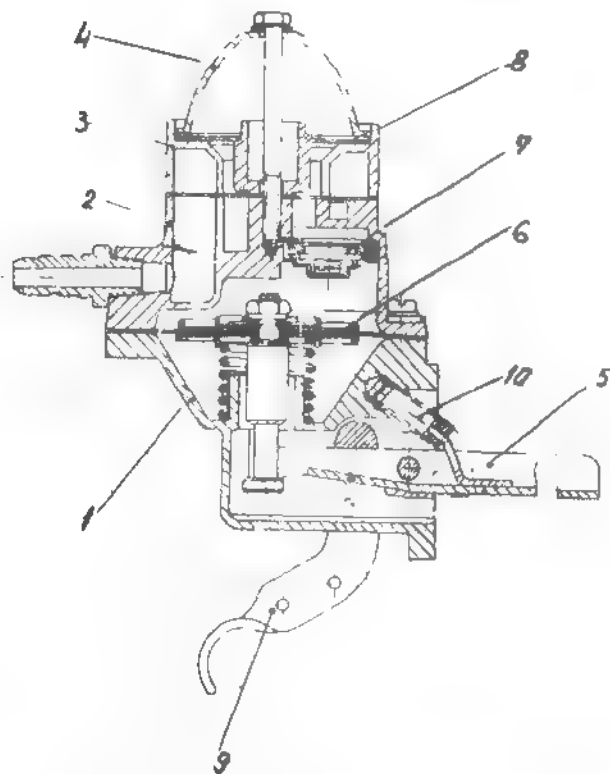

Fig. 4.3. FUEL PUMP
The pump is of the diaphragm type and is actuated by an excentric of the camshaft through the agency of a rocker arm (see fig. 4.3.).
A central bolt fastens the cover (4) and upper body (3) on middle body (2) (fig. 4.3.).
- Unscrew bolts fastening the middle body on lower body (see fig. 4.3.).
- Unscrew cover bolt and remove the pump cover (4) - see Fig. 4.3. - fine filter strainer (8), sealing gasket, upper pump body (3) and gasket sealing upper body.